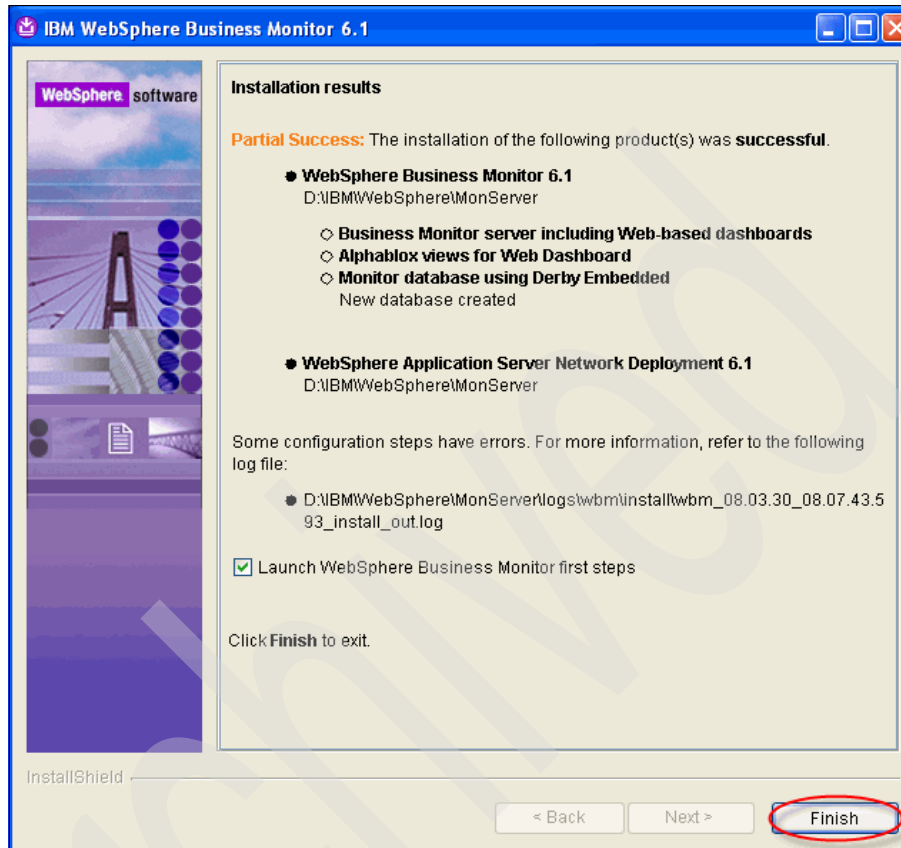

Figure 3-31 WebSphere Business Monitor installation: Installation results
14. In the Installation results panel (Figure 3-31), click **Finish**.